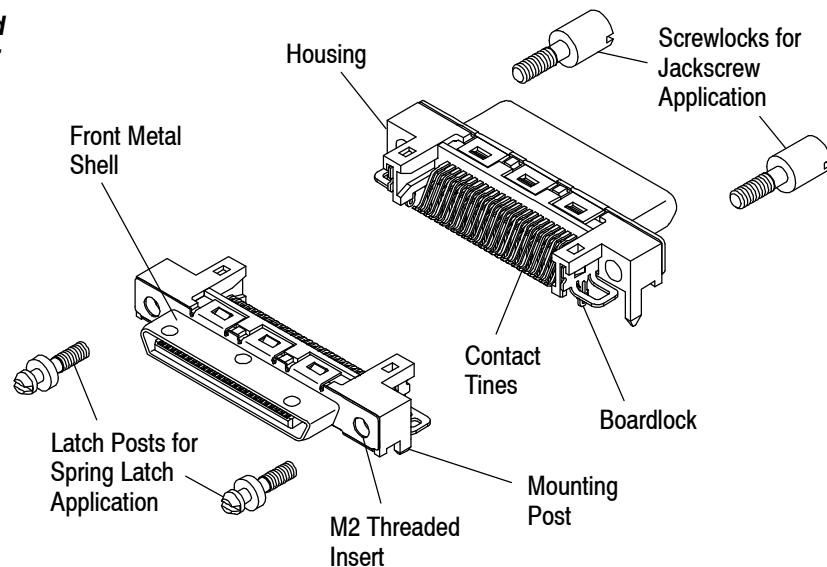

Figure 16
3.17. Hardware for PC Board Connectors (See Figure 16)